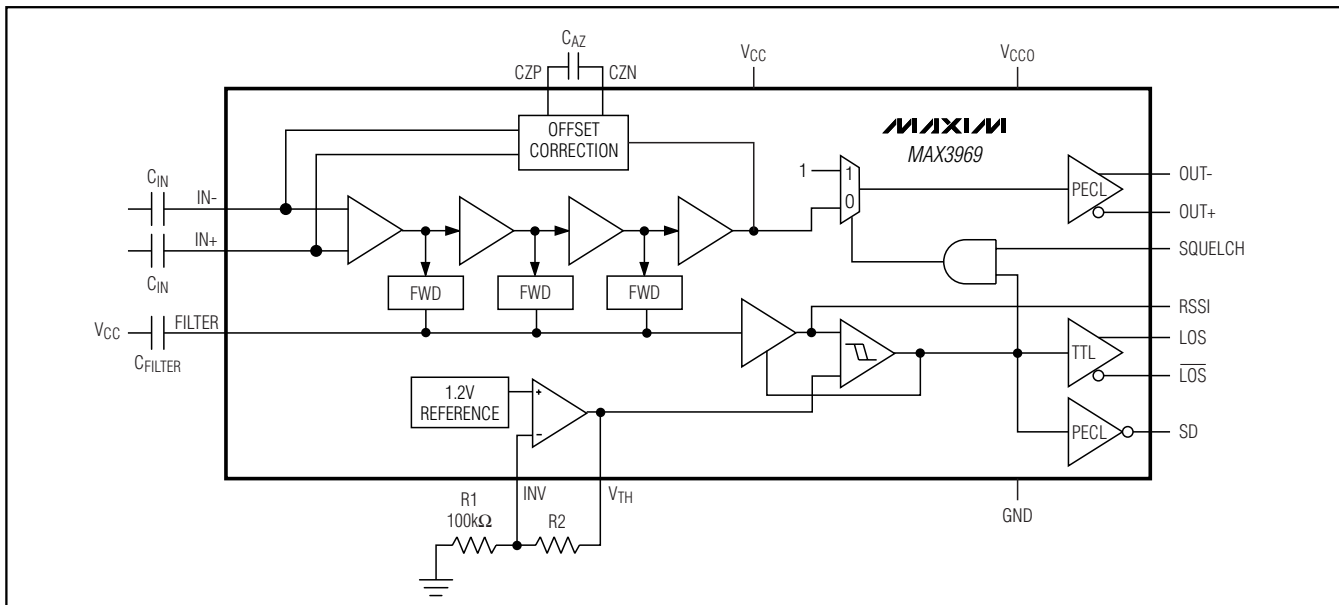

Figure 1. Functional Diagram
| 1       | INV              | Inverting Input of Internal Op Amp that Sets Power-Detect Threshold Voltage (Figure 1). Connect a resistor from $V_{TH}$ to INV ( $R_2$ ), and from INV to ground ( $R_1 = 100k\Omega$ ), to program the desired threshold voltage.  |
| 20     | V TH | Output of Internal Op Amp that Sets Power-Detect Threshold Voltage (Figure 1). Connect a resistor from V TH to INV (R2) and from INV to ground (R1 = 100k $\Omega$ ), to program the desired threshold voltage.                                 |
The MAX3969 contains a series of limiting amplifiers and power detectors, offset correction, data-squelch circuitry, TTL buffers for LOS outputs, and PECL output buffers for signal detect (SD) and data outputs. See Figure 1 for the functional diagram.